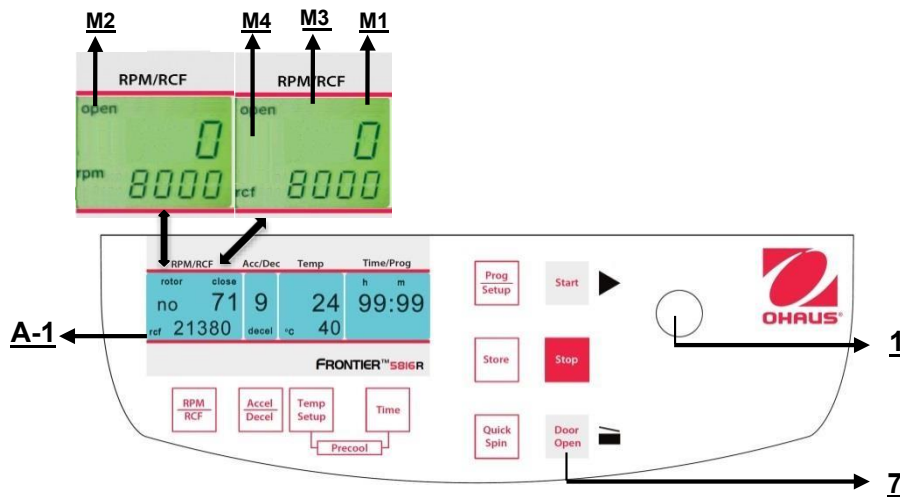

Figure. 18
After the run, when the lid of the centrifuge is closed, the word "**close**" (M1) appears in the display "**RPM | RCF**" (A-1). Additionally, if there is a rotor in the centrifuge, the word "**rotor**"(M3) appears as well as the code number of the respective rotor, which is in the centrifuge system "**71**" (M4). If there is no rotor in the centrifuge, the word "**rotor**" (M3) flashes and additionally the word "**no**" (M4) appears. By pressing the key "**Door Open**" (7) you can release the lid of the centrifuge. As soon as the electromagnetic lid is completely released, the word "**open**" (M2) appears. Now you can open the lid of the centrifuge. Please refer to figure 18 below for reference.